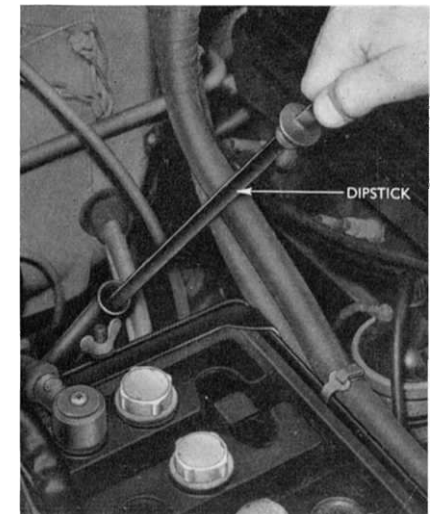

Fig. 2 Gearbox Dipstick
- 3.—Switch off the engine, slowly remove the gearbox clip-stick (Fig. 2) and check the oil level. Use only a lintless rag to wipe the dipstick.